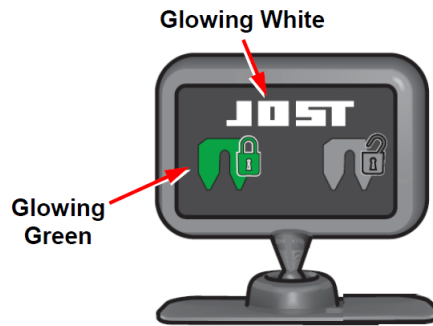

FIGURE 6
- E. The dash display JOST Logo will glow white and a fifth wheel icon will glow green (see figure 6)